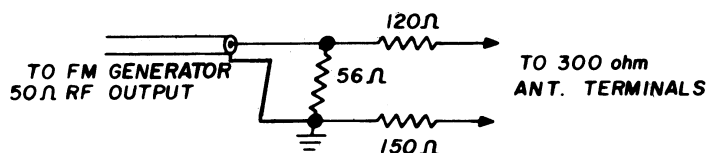

Figure 3
1. Set the SELECTOR switch to FM and turn the FM MUTING switch off. Connect an FM Generator to the 300 ohm antenna terminals using a matching transformer with a 1:1 voltage ratio or, if necessary, use a 2:1 ratio resistive network as shown in Figure 3 below.